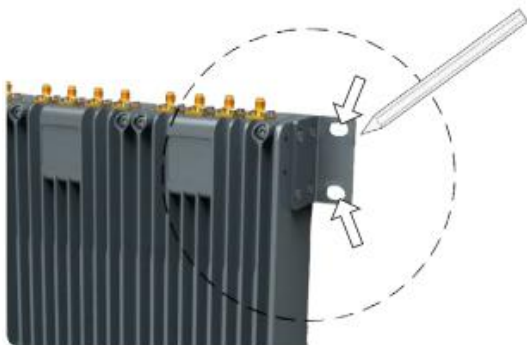

Figure 10. Marking position of mounting holes
1. Hold the A2 to the installation location and mark the position of the 4 mounting holes in the mounting brackets; see arrows in Figure 10